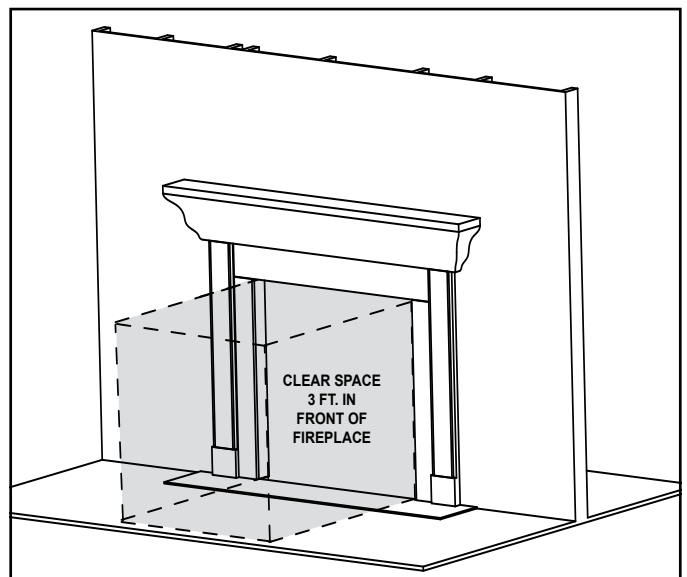

Figure 3.1 Clear Space Requirement - All Models
**WARNING! DO NOT place combustible objects in front of the fireplace or block louvers. High temperatures may start a fire. See Figure 3.1.**